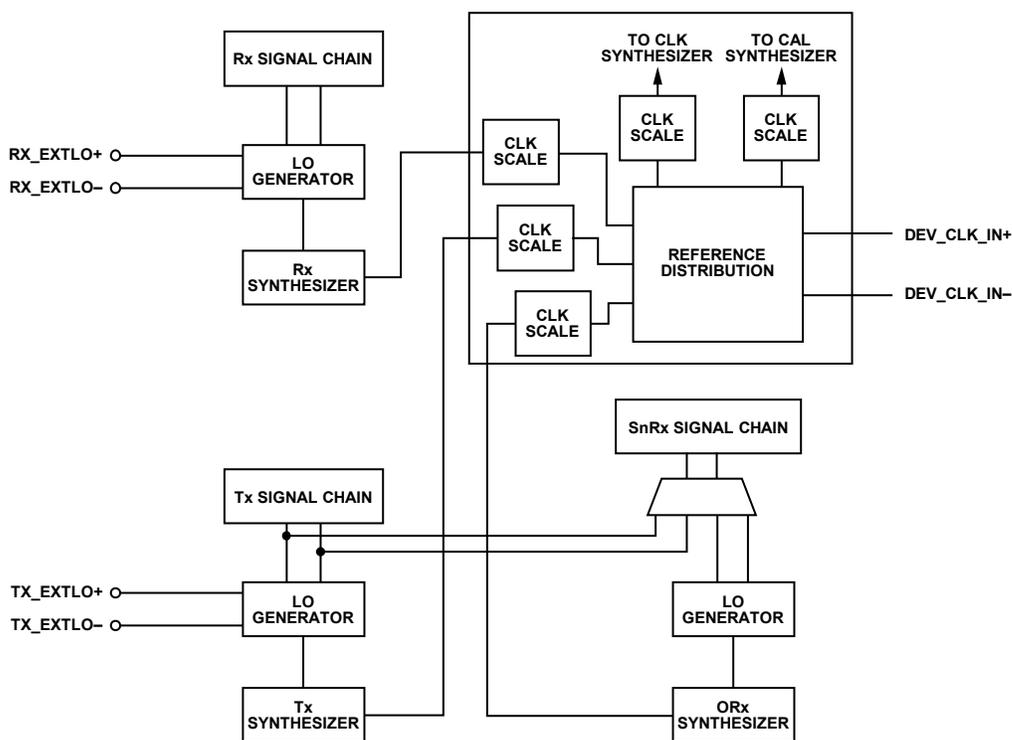
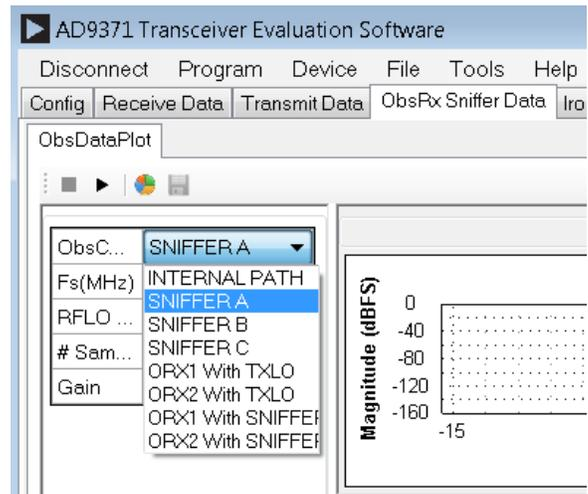

Figure 53. Synthesizer Interconnection Block Diagram
Figure 56. LO Selection for Sniffer and ORx Path in the Transceiver Evaluation Software (TES)
The device contains three radio frequency (RF) phased-locked loop (PLL) synthesizers for Tx, Rx, and ORx/sniffer channel tuning. Figure 53 shows these synthesizers and their interconnectivity with each of the RF signal paths. Each PLL synthesizer employs a fractional-N architecture with a completely integrated voltage controlled oscillator (VCO) and loop filter. No external devices are required to cover the entire frequency range of the device. This configuration allows the use of any convenient reference frequency for operation on any channel with any sample rate. The fundamental frequency of the PLL ranges from 6 GHz to 12 GHz. The local oscillator (LO) frequency is created by dividing down the PLL VCO frequency. The reference frequency for the PLL is scaled from the reference clock applied to the DEV\_CLK\_IN± pins.
Figure 53 outlines a high level synthesizer block diagram, including the option to provide external LOs for Rx and Tx signal chains. To select an external LO for Rx or Tx RF signal paths, a series of API commands must be executed before initializing the device. Select the correct frequency settings by using the following commands:
Part of the initialization procedure includes setting up internal clock generation. All internal clocks are generated based on the selected profile; therefore, there is no need for reconfiguration of the clock synthesizer after the device finishes the initialization sequence. Initialization of the clock generation block (see Figure 53) is done by the API function described in the following section.
Another user configurable option shown in Figure 53 is the selection of the local oscillator (LO) for the observation Rx signal path. The user can select the desired LO source (SnRx, LO, or Tx LO) for ORx1 or ORx2 using the TES dropdown menu, as shown in Figure 56.